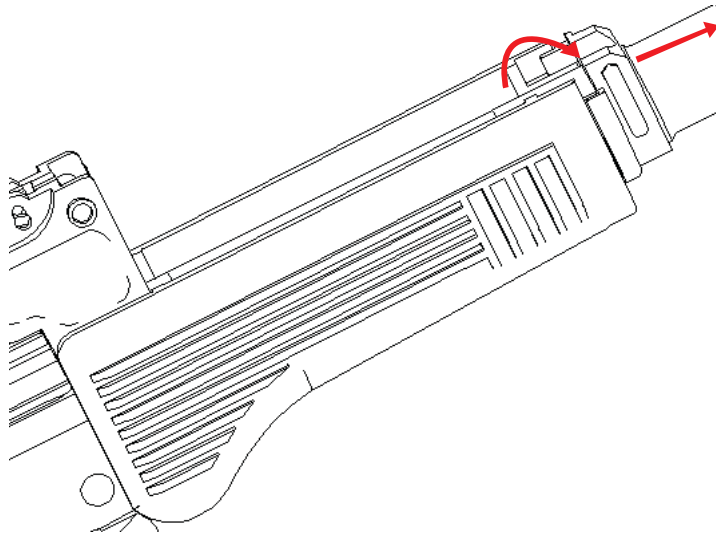

Fig. 15 Disengaging Lower Handguard Hoop Pin from Barrel axially
1. Turn the lower hand guard hoop pin clockwise to release it from the barrel axially (see Fig. 15).
2. Push the hand guard hoop towards the muzzle to remove it (Fig. 15).